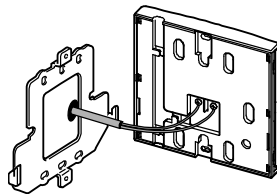
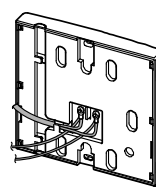

Fig. 3
Fig. 4
6. Connect the cable to the water controller as shown in (Fig 3). At this point cables from other controllers (if fitted) may also be connected to the screw terminals of the Kitchen water controller (Fig. 4) eliminating the need for multiple cable runs directly to the water heater. Water controllers are not polarity sensitive. Feed any excess cable lengths into the wall cavity to avoid the pinching of cables between the wall and the controller.